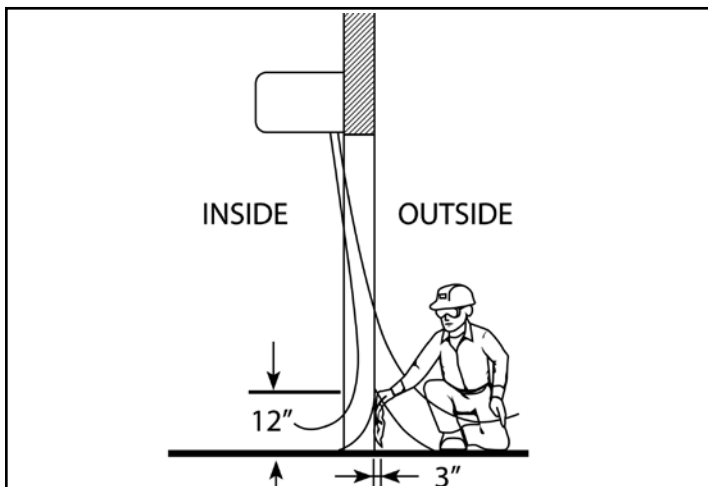

FIGURE 11 - Air Stream Split
2. Find the air stream split location. Hold a handkerchief by its corners, approximately 12" above the floor. Gently move the handkerchief back and forth in the doorway. Make sure the air is being directed to both the inside and the outside. **See Figure 11.** The split location is indicated where the handkerchief is vertical with minimal or no fluttering.